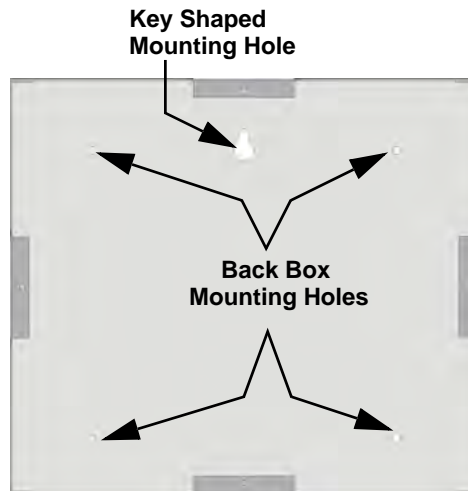

Figure 4.19 Back Box Surface Mount Holes
2. To properly mount the back box, insert a single screw into the key-shaped mounting hole. Do not tighten all the way. See Figure 4.19. Place a level on top of the back box, with the back box level, insert the rest of the mounting screws.